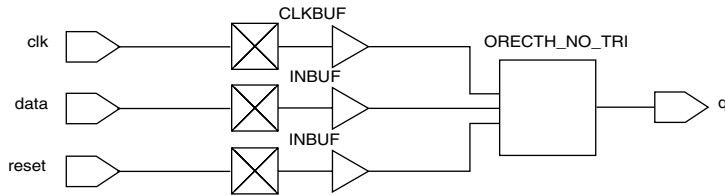

Figure 5-3. Compilation Results
4. **Set switches and compile the design.** Figure 5-3 on page 78 shows the compilation results. This example illustrates that the pad